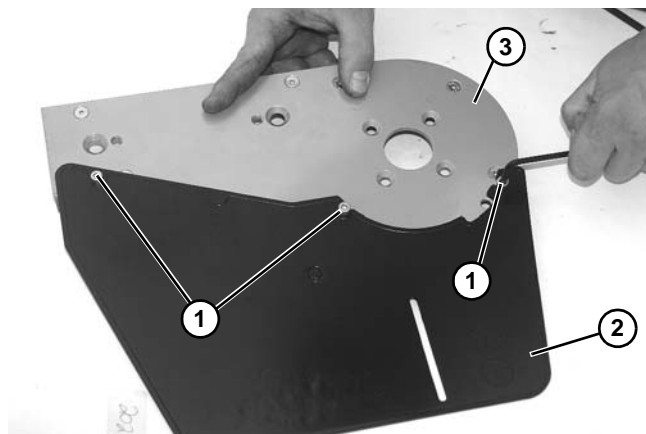

Figure 115
1. Remove three socket head screws (**Figure 115, item 1**) and remove drive plate guard (**Figure 115, item 2**) from drive plate (**Figure 115, item 3**).